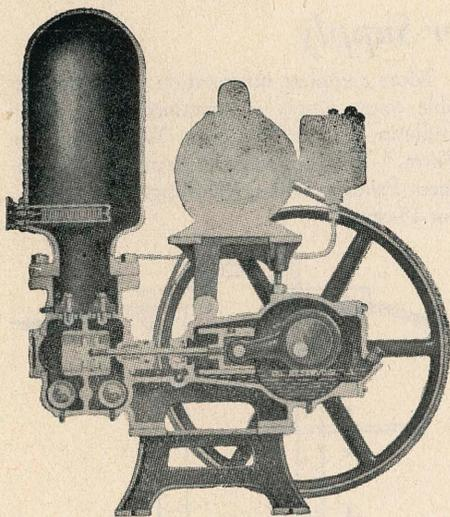

Fig. 2—Shallow well piston pump
*The shallow well model* (See fig. 2) is a double acting pump with the motor and pump in one compact unit and a suction pipe set down in the water. It need not be placed directly over the well.